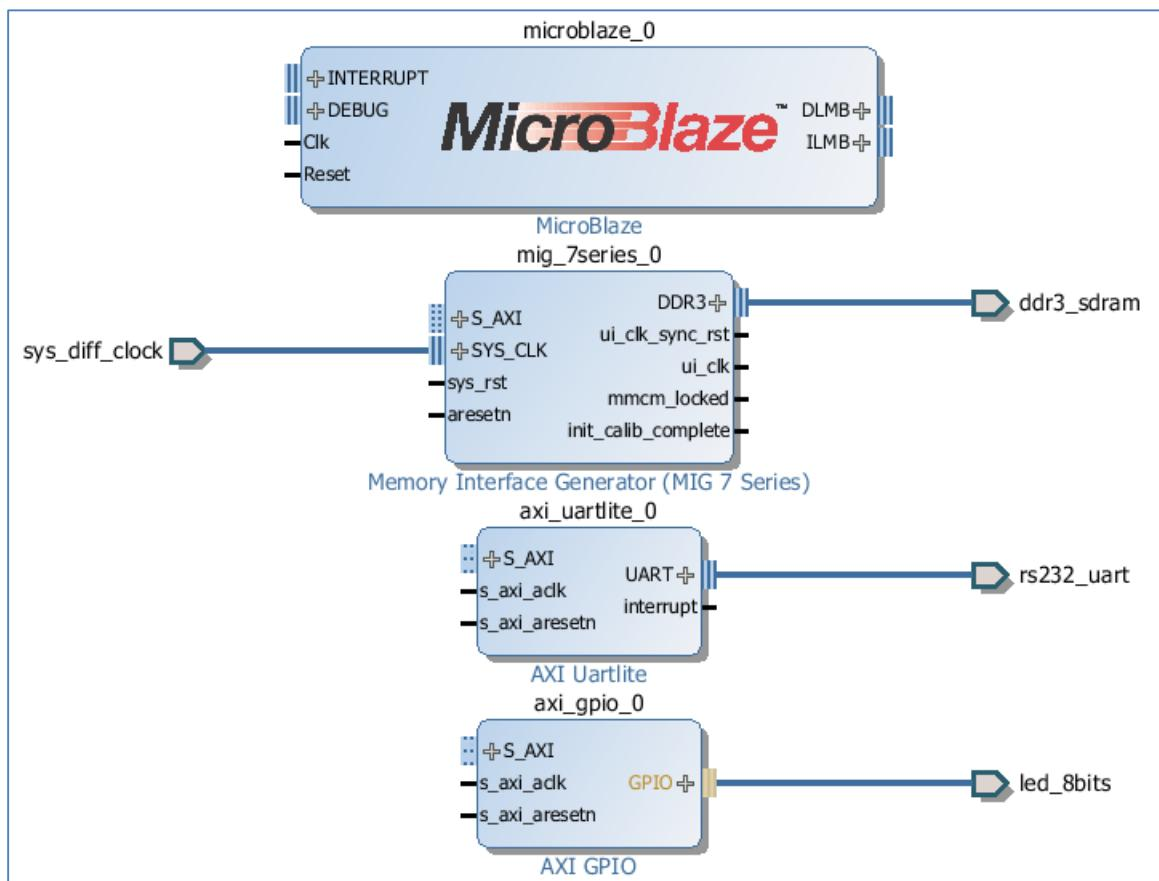

Figure 106: Block Design After Connecting the Rs232_Uart Interface
10. The block design now should look like Figure 106.